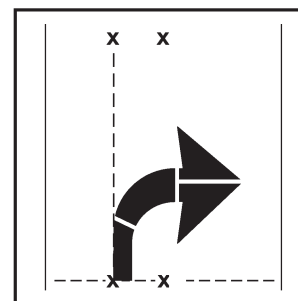

Figure 29
5. Lay out the base of the straight arrow (liner still on) with the LEFT edge along the chalk line and the base corner meeting where the curve arrow begins to curve away from the chalk line (see Figure 29).